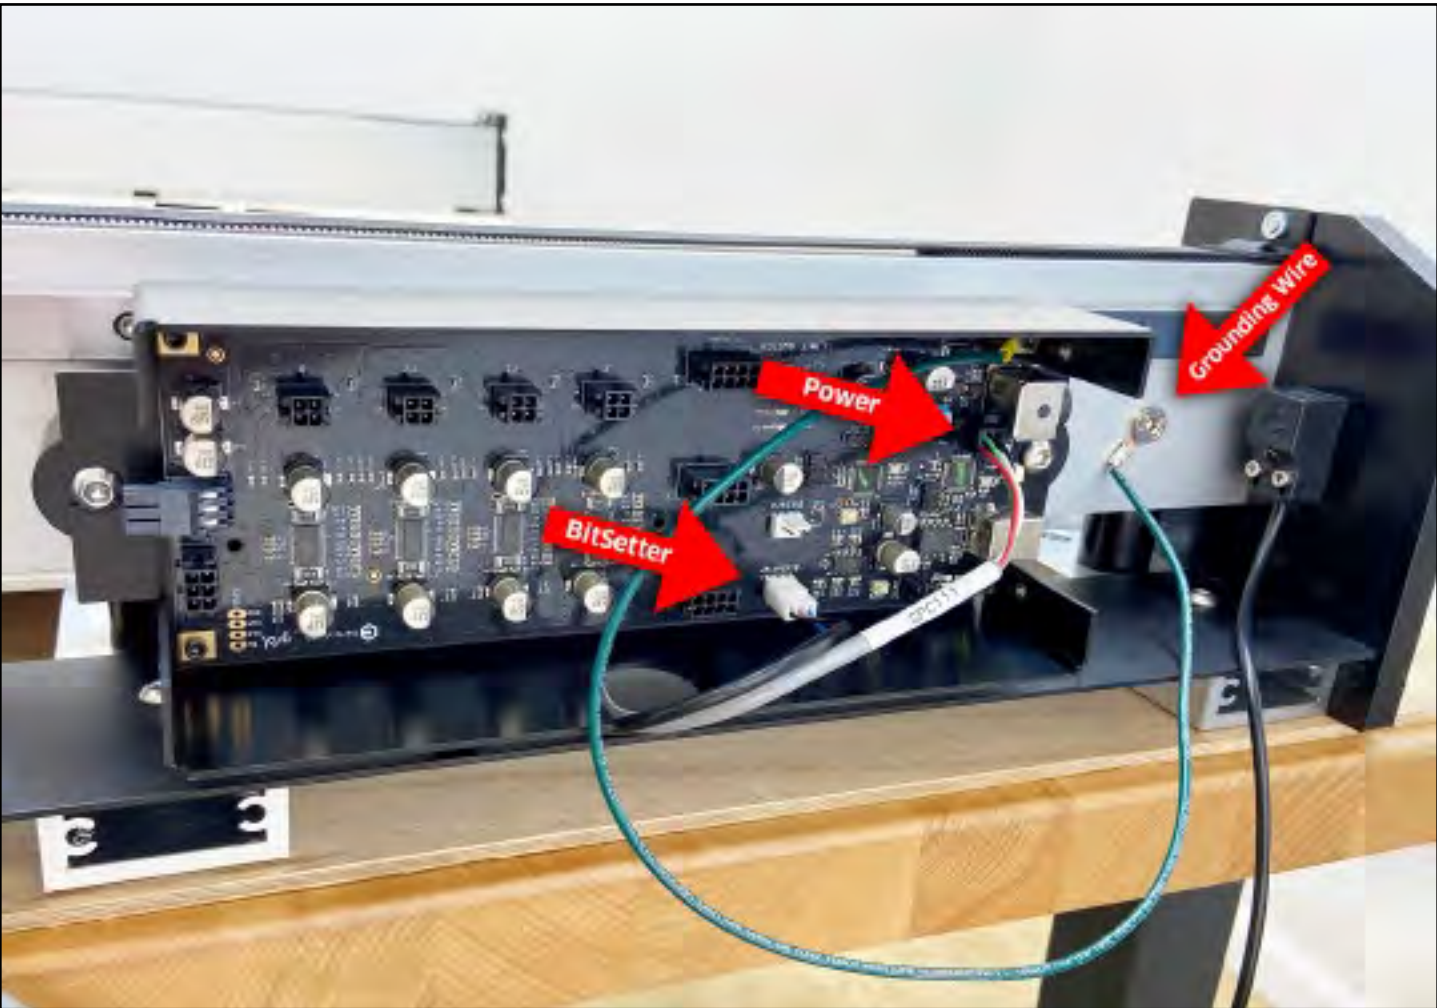

Figure 9-2
- 1. Screw the two (2) controller standoffs into the second and fifth threaded holes from the REAR of the Y-Right rail. Hand tighten.
- a. Power and USB to the back. **See Fig. 9-2.**
- 4. Use a 4mm hex key and two (2) M6×12mm BHCS to secure the controller to the standoffs. Fully tighten.
- 1. Use a 4mm hex key and one (1) M6×10mm FHS (found in the Extra Hardware Bag) to secure the green grounding wire to the first threaded hole from the rear of the rail. **See Fig. 9-2.**